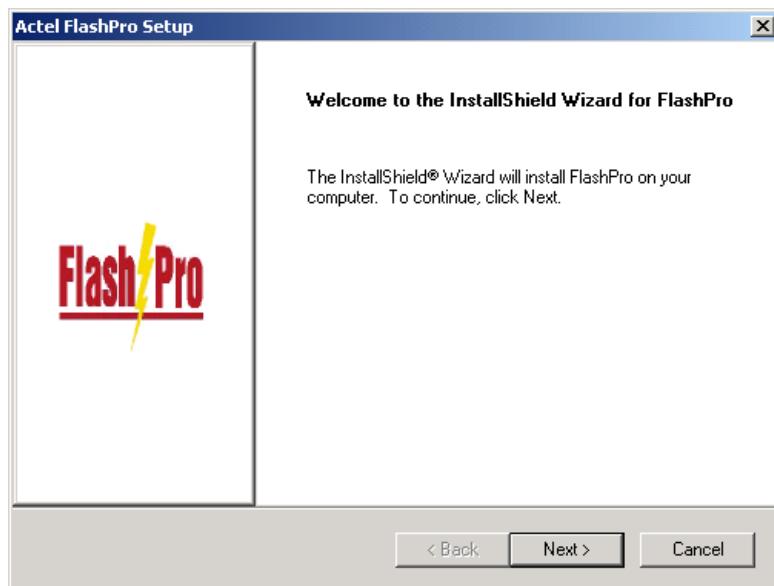

Figure 1-1. FlashPro Installation Wizard
1. Insert the FlashPro CD into your drive. The installation wizard starts, as shown in Figure 1-1.